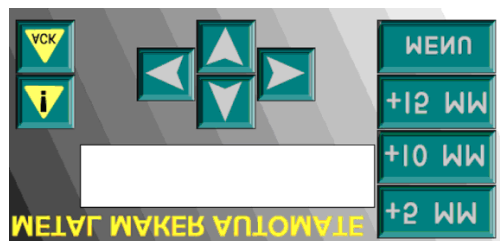

Figure 3-16 Reversed Panel Image
- Printing a reversed image allows you to orient the side of the faceplate with the ink from the printing process towards the TD device. The operator then touches only the plastic membrane and not the ink when pressing a button. See Figure 3-16.